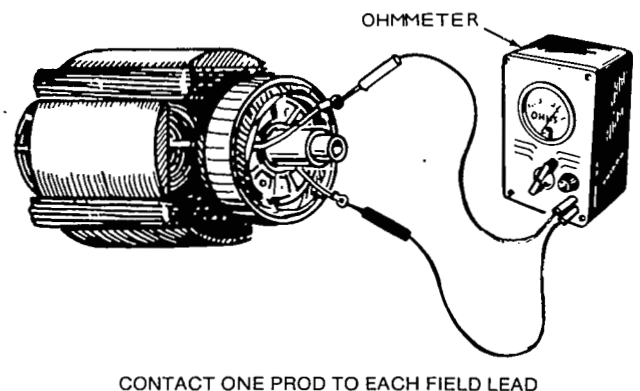

FIGURE 4-10. TESTING ROTOR FOR AN OPEN CIRCUIT
2. Using ohmmeter, check resistance between F1 and F2 leads, Figure 4-10.